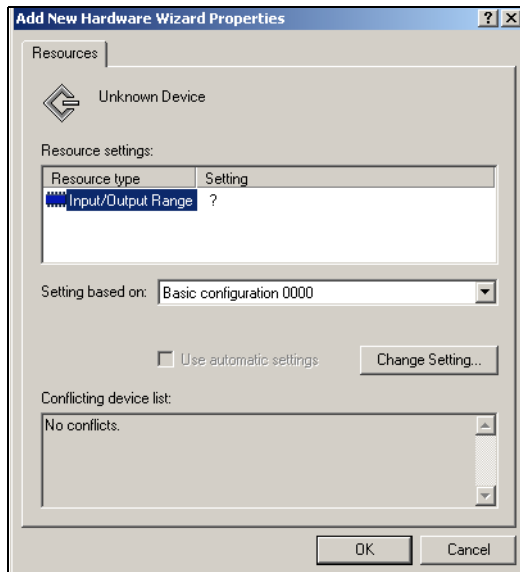

Figure 7-27 The Add New Hardware Wizard Properties window, click Change Setting.
26. Highlight Input/Output Range and click on **Change Setting...** (Figure 7-27).